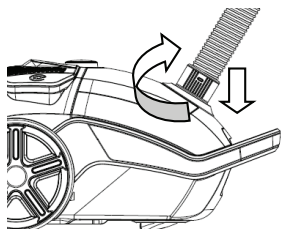

Fig. 1
Align and insert the bayonet lock end of the suction hose (16) into the suction hose receptacle (4) at the front cover and turn clockwise to lock the bayonet lock tight (Fig 1).